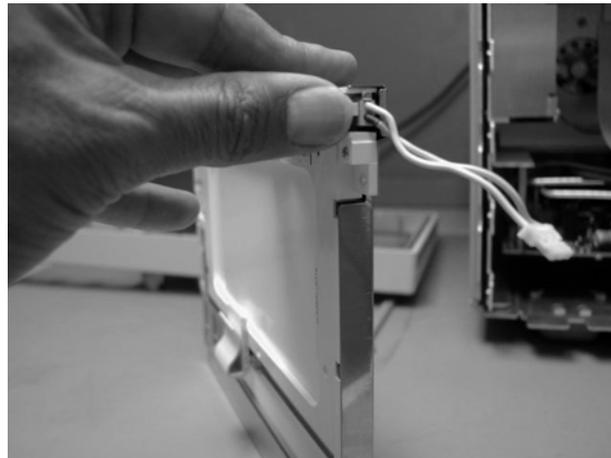

Figure 7-18. Release the Backlight Tab
- 3 At the top of the display, push the locking tab to release the top backlight, as shown in Figure 7-18.